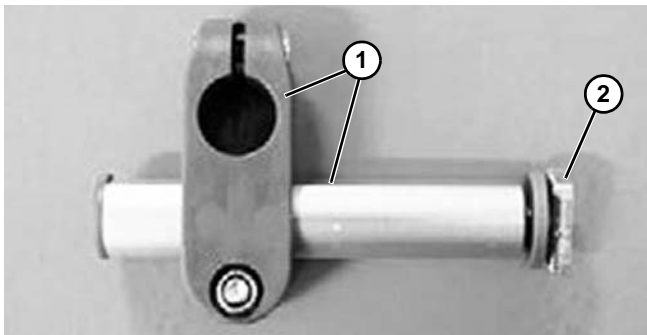

Figure 89
1. Fasten an adjustable guide rail bracket support (**Figure 89, item 1**) to the conveyor beam using T-bolt (**Figure 89, item 2**).